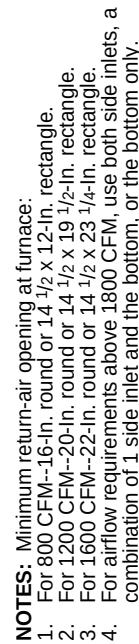

Fig. 2—Dimensional Drawing
- a. Determine location of field drain connection. (See Fig. 2 or 5.)
An alternate location for the condensate trap is the left-hand side of casing. (See Fig. 2 and 6.)
3. Remove casing hole filler cap from casing hole. (See Fig. 2 or 6.)